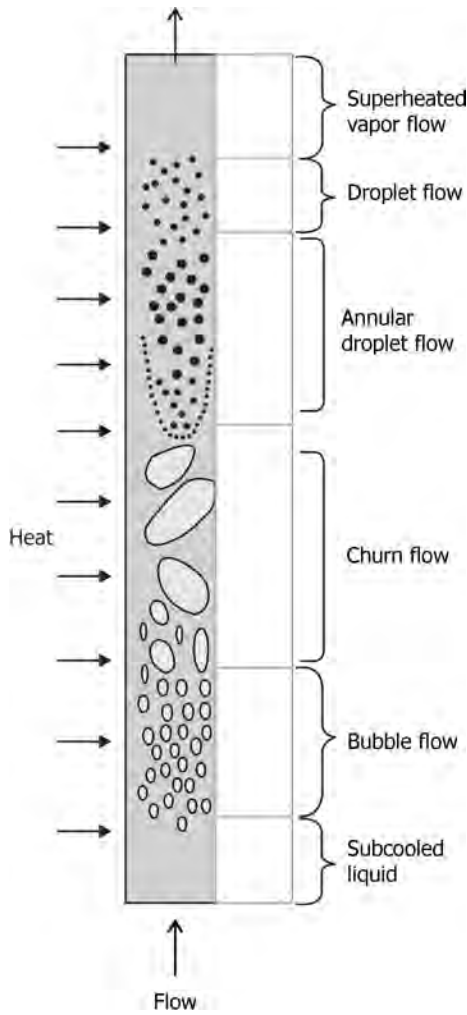

FIGURE 7.3 Two-phase flow patterns in a vertical evaporator tube.
- Figure 7.3 illustrates patterns of two-phase flow in a heated vertical pipe.